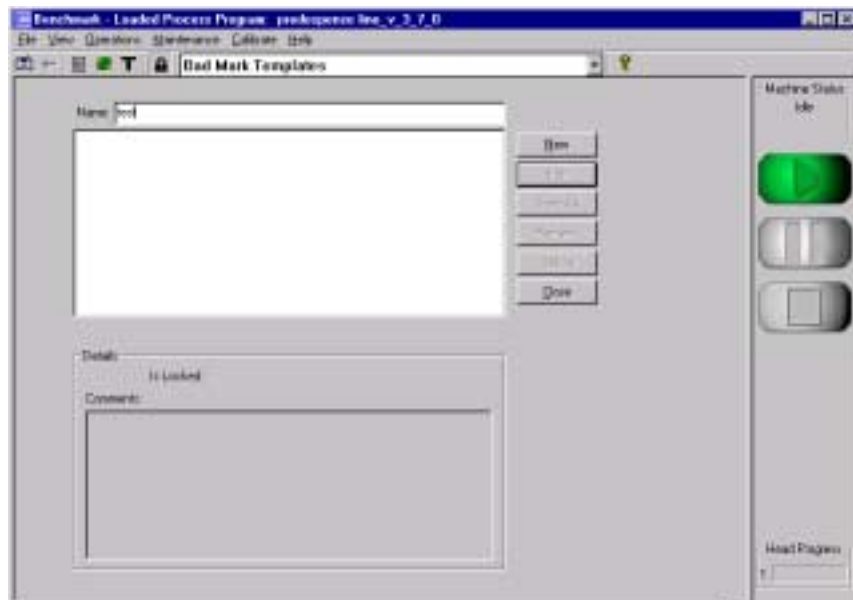

Figure 10-4
1. Select **File>Bad Mark** from the menu bar. The Bad Mark Template screen appears. See Figure 10-4.